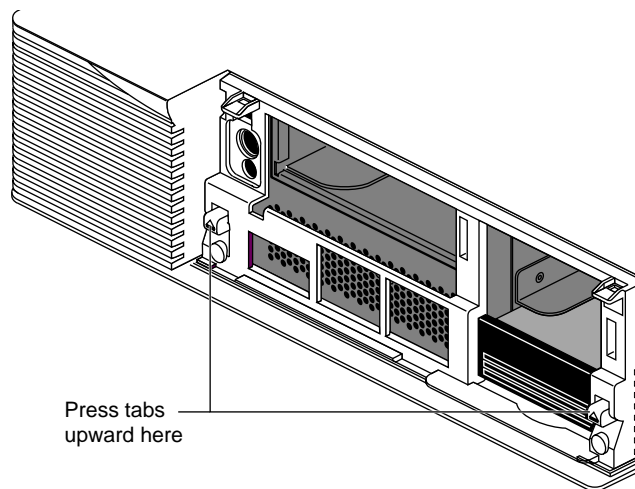

Figure 9-5 Releasing the Top Cover
- Press up on the tabs on each side of the drive openings, as shown in Figure 9-5.